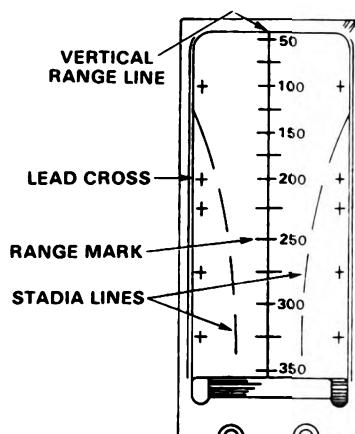

Figure 1. Front sight.
b. **Front Sight (figure 1).** The front sight is a clear plastic flip-up leaf. On the sight there is a vertical range line with ranges from 50 to 350 meters indexed in 25-meter increments, two curved stadia lines (LAW stadia lines are not accurate and are no longer used) and lead crosses.